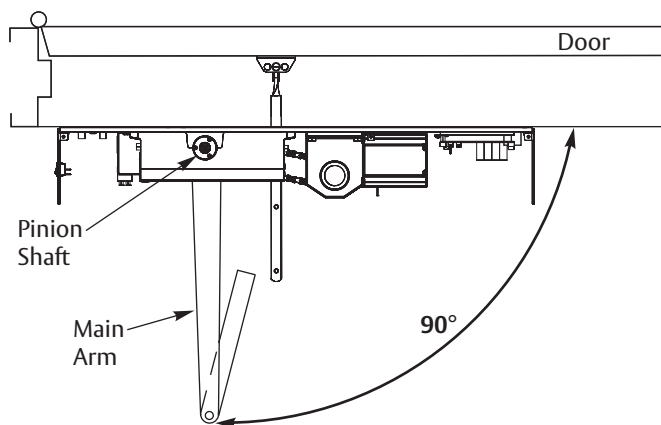

Figure 7 View from ceiling looking downward
- Insert main arm onto pinion shaft of unit at 90° angle to frame. (Figure 7)